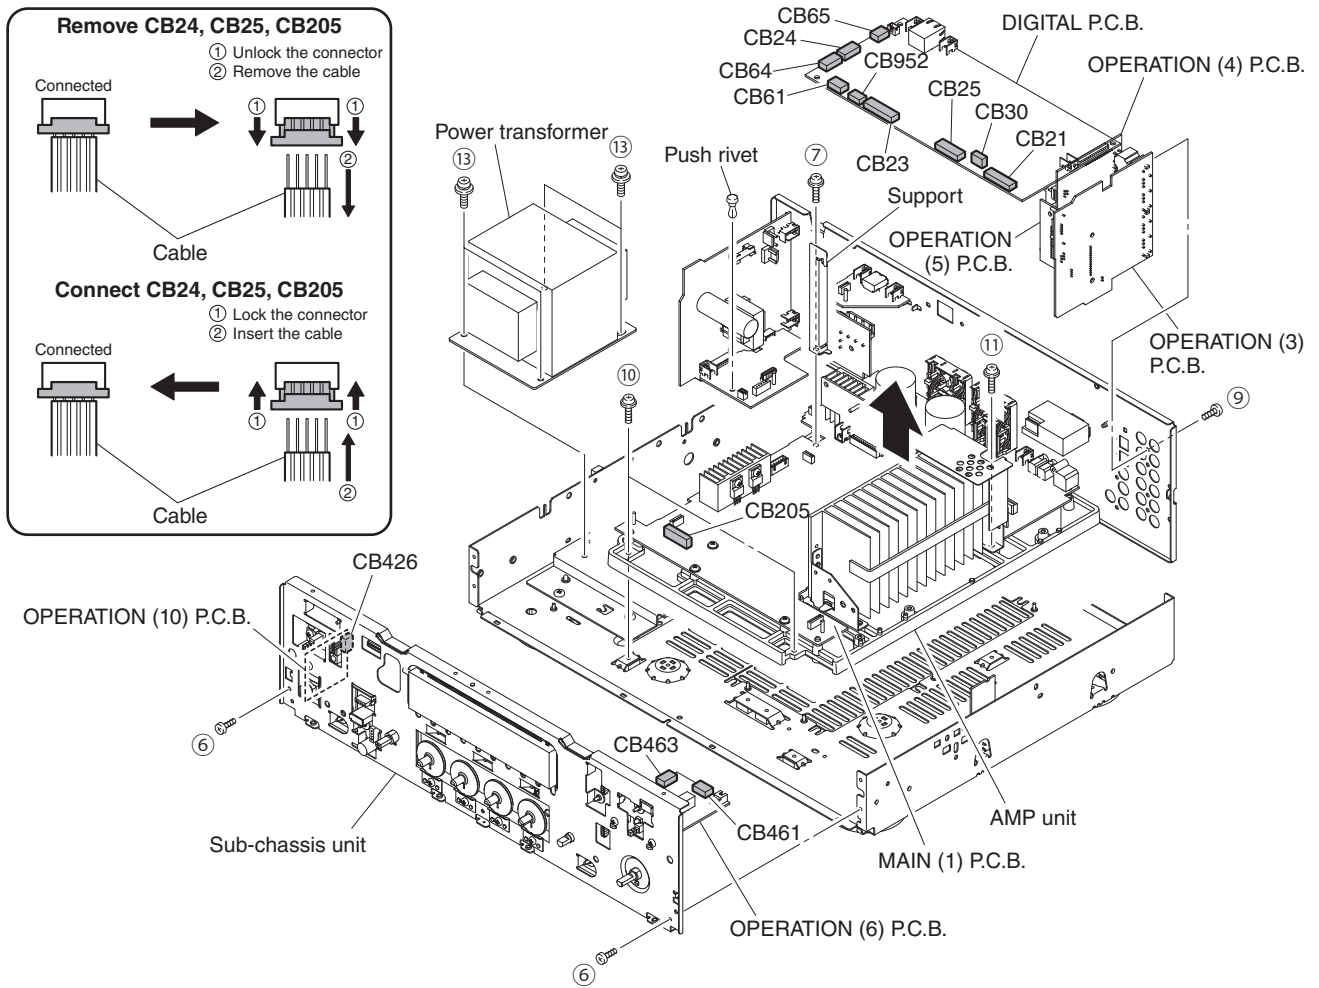

Fig. 2
- a. Remove 2 screws (⑥). (Fig. 2)
- b. Remove CB21, CB61, CB426, CB461, CB463 and CB952. (Fig. 2)
- d. Remove the sub-chassis unit. (Fig. 2)
- a. Remove screw (⑦) and then remove the support. (Fig. 2)
- c. Remove CB23, CB30, CB64 and CB65. (Fig. 2)
- e. Remove the DIGITAL P.C.B. together with the OPERATION (3)–(5) P.C.B.s. (Fig. 2)
- a. Remove 2 screws (⑩) and screw (⑪). (Fig. 2)
- c. Remove push rivet and then remove the amp unit. (Fig. 2)
- d. Remove 4 screws (⑬). (Fig. 2)
- e. Remove the power transformer. (Fig. 2)